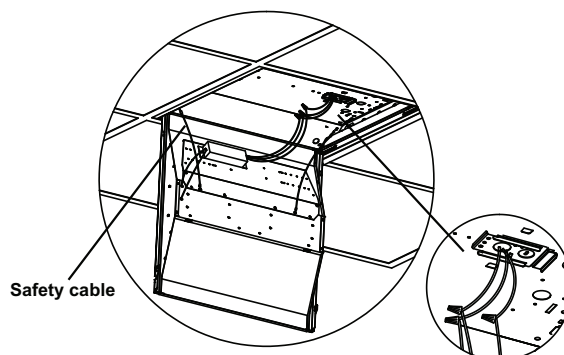

Fig. 5
6. Pass grommet. Connect red driver lead to the red board lead from the positive terminal, and the blue driver lead to the blue lead from the board negative terminal. Hook the safety cables into the holes positioned the end brackets. (Fig.5)